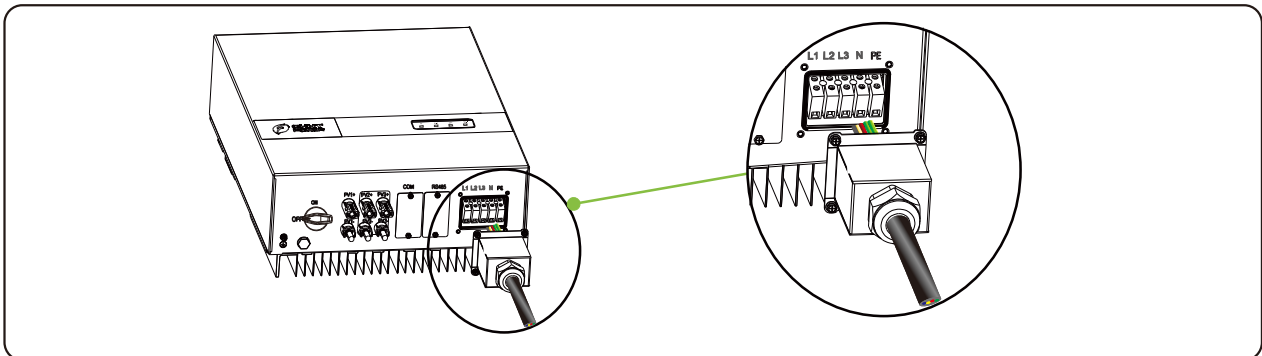

Figure 5.6 Dealing AC output cable
**Step 3** Insert AC output wire through waterproof terminal block to AC connector with appreciate wiring length reserved, as shown in Figure 5.6.